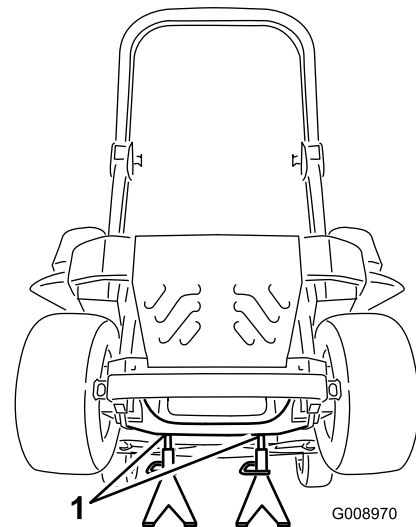

Figure 82
3. Raise the machine and support it with jack stands (Figure 82).
9. Remove the jack stands and lower the machine (Figure 82).